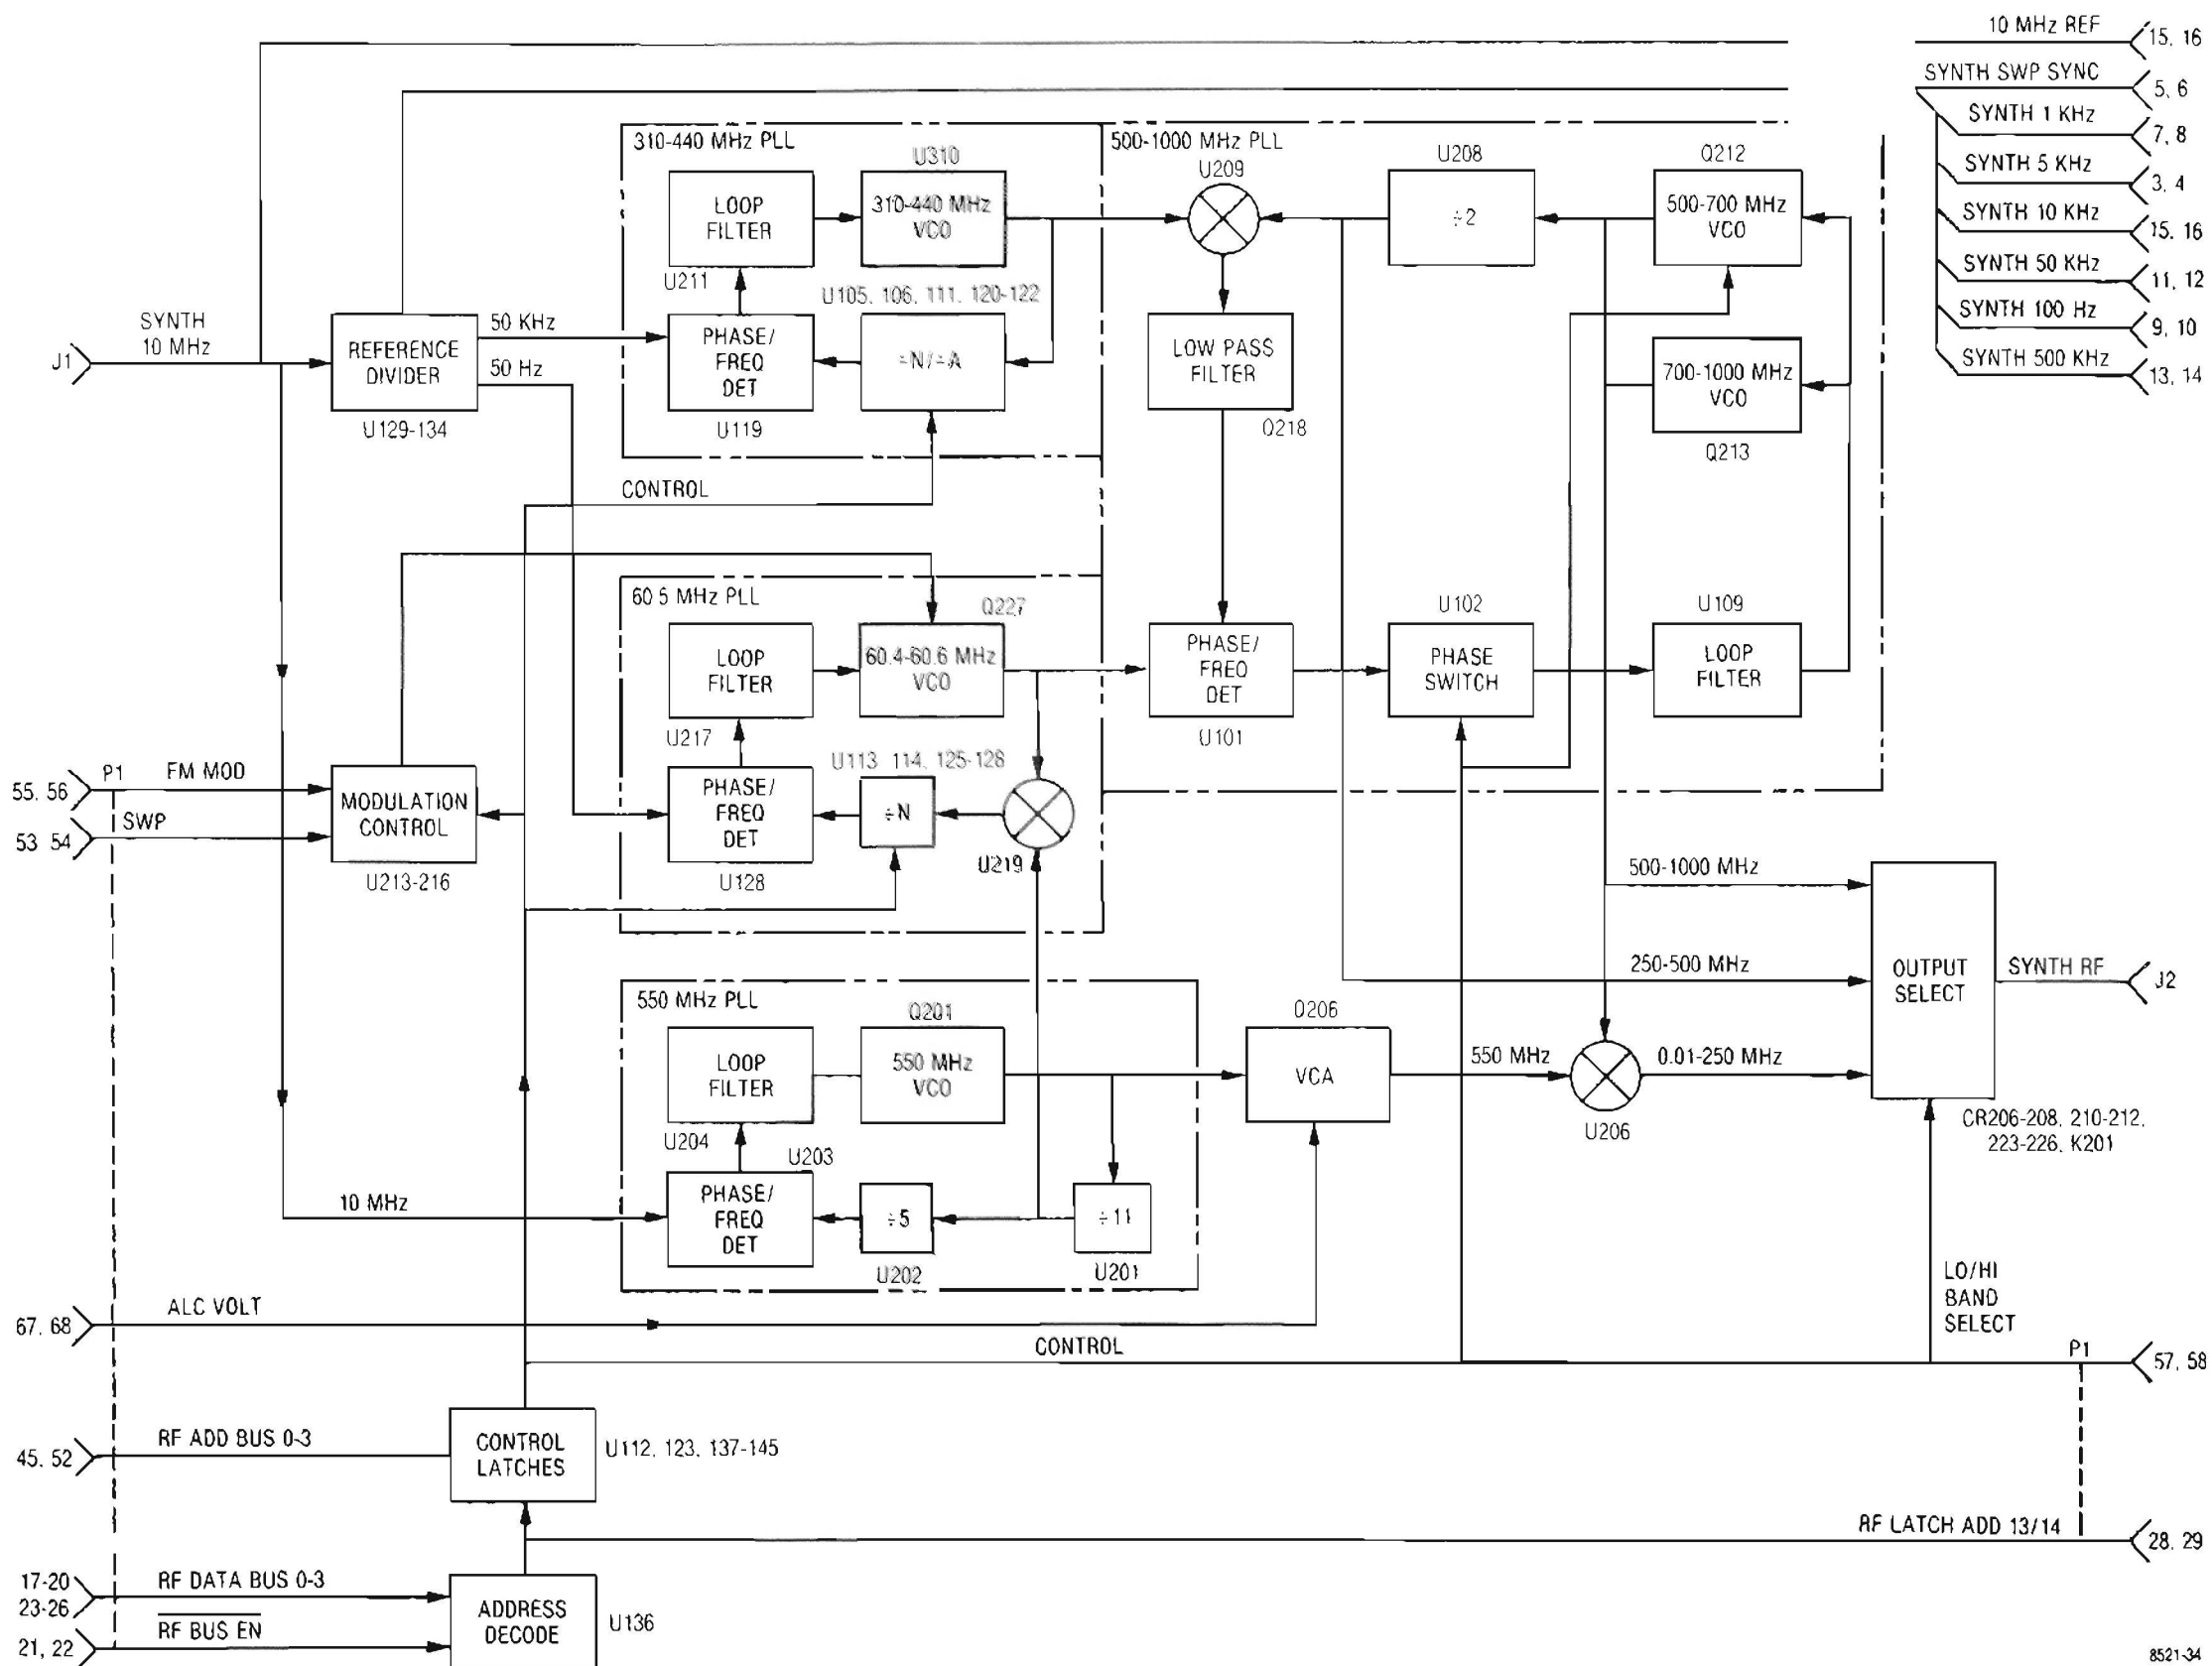

Figure 11-1. RF Synthesizer A5 Block Diagram
**11-1. General.** The RF Synthesizer provides an RF signal source for the frequency range from 10 kHz to 1 GHz in 100 Hz steps. The output frequency is programmed by the processor through the RF control bus and is phase locked to the 10 MHz frequency standard. A reference divider in the module produces outputs of 500 kHz, 50 kHz, 5 kHz, 1 kHz, 100 Hz, and 50 Hz (SYNTH SWP SYNC) each having the same accuracy as the frequency standard. A block diagram of the RF Synthesizer is shown in figure 11-1 and its schematic is shown in figure 11-3.